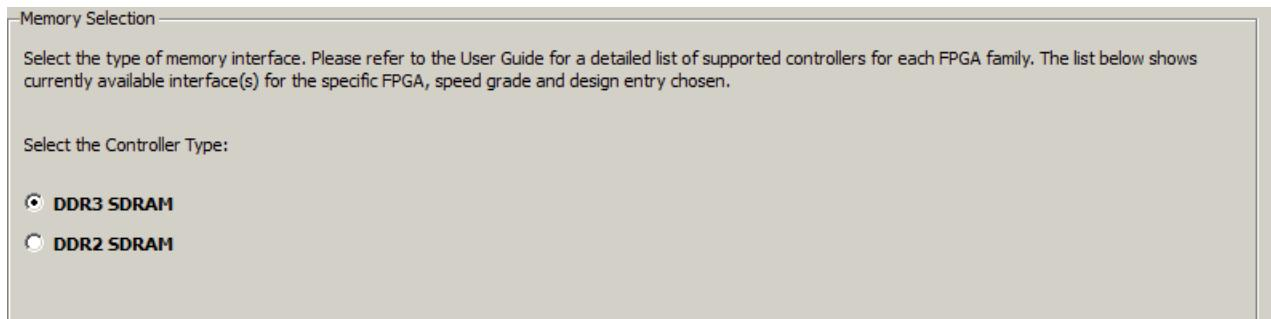

Figure 28: MIG Memory Type and Controller Selection
7. Click **Memory Selection**, select **DDR3 SDRAM**, then click **Next** (Figure 28).